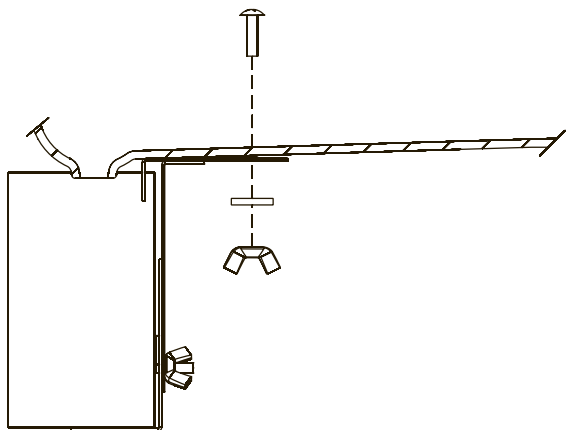

FIGURE 5
Attach the grease cup bracket assembly (8) to the bottom of the grill casting and fasten with 10-24 x 3/4" bolt, 9/32 ID x 5/8 OD washer, and #10-24 wing nut. Figure 5.